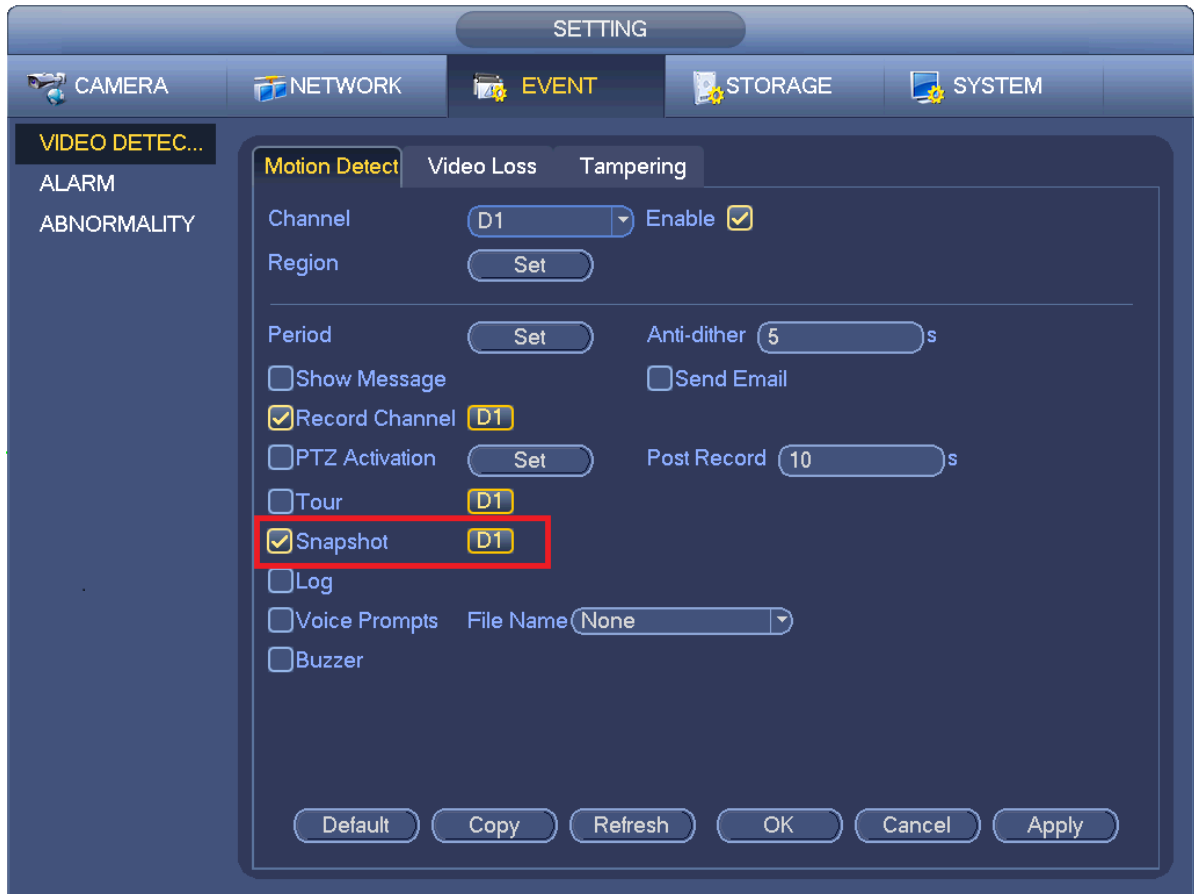

Figure 4-31
- When the record type is MD (motion detect), alarm, MD&Alarm, please enable the channel snapshot function when corresponding alarm occurs. For example, when the alarm type is MD, from main menu->Setting->Event->Video Detect->Motion Detect, please select the snapshot channel and enable snapshot function. See Figure 4-31.